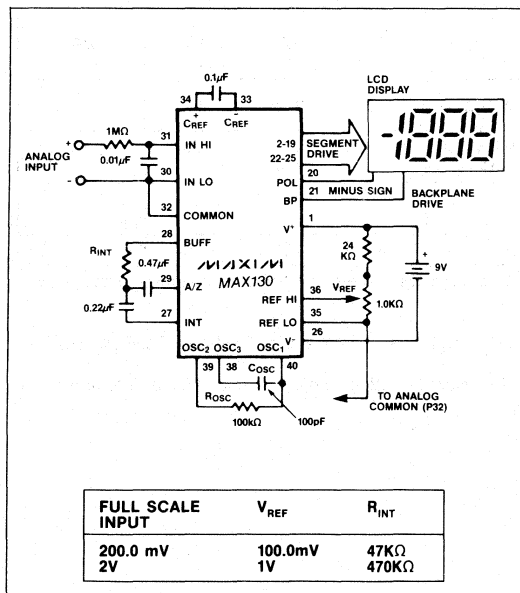
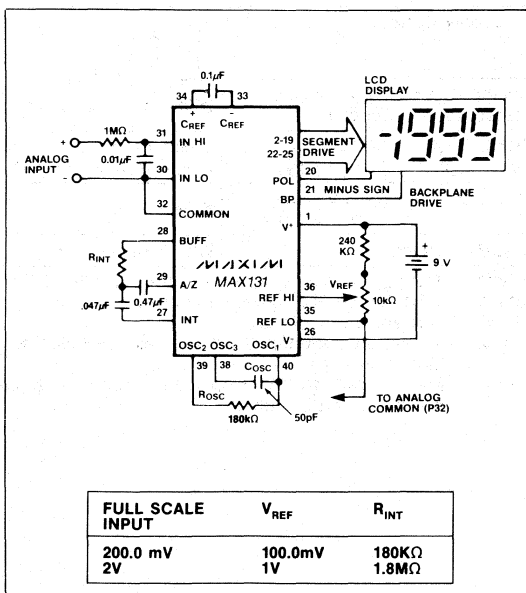

Figure 1. Maxim MAX130 Typical Operating Circuit, 3 Conversions per Second
Figure 2. Maxim MAX131 Typical Operating Circuit, 3 Conversions per Second
(V+ = 9V, TA = 25°C, fCLOCK = 48kHz; test circuit - Figure 1; unless noted)
(V\* = 9V, TA = 25°C, fCLOCK = 48kHz; test circuit - Figure 2; unless noted)
**Note 3:** Test condition is VIN applied between pin IN-HI and IN-LO through a 1MΩ series resistor as shown in Figures 1 and 2.
**Note 4:** 1MΩ resistor is removed in Figures 1 and 2.
Figures 1 and 2 show the basic MAX130 and MAX131 applications circuits. Note that the circuits for the MAX130 and the MAX131 use different values for the integration and oscillator components. The MAX130 can operate using the MAX131 component values, but the MAX131 will not operate using the MAX130 component values. The lower supply current device, the MAX131, must always use the higher value integrator resistor as shown in component value table in Figure 2. With a typical operating current of only 65µA, the MAX131 will operate for about 8500 hours when powered by a typical 550mAh alkaline 9V battery. The MAX130 will operate for 2200 hours with a 550mAh battery.